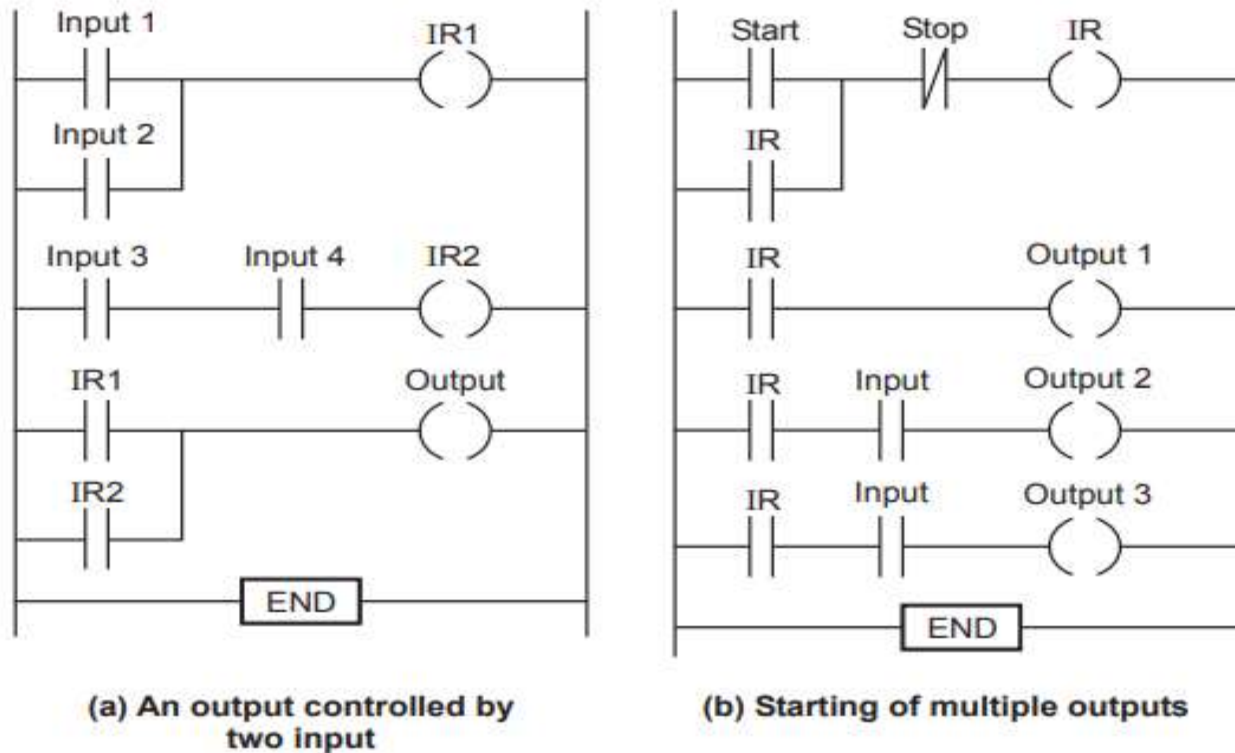

Fig. 4.15.21
- Figure 4.15.21 (a) shows how we can draw a ladder diagram using internal relays.
- Figure 4.15.21 (b) shows such a ladder program.